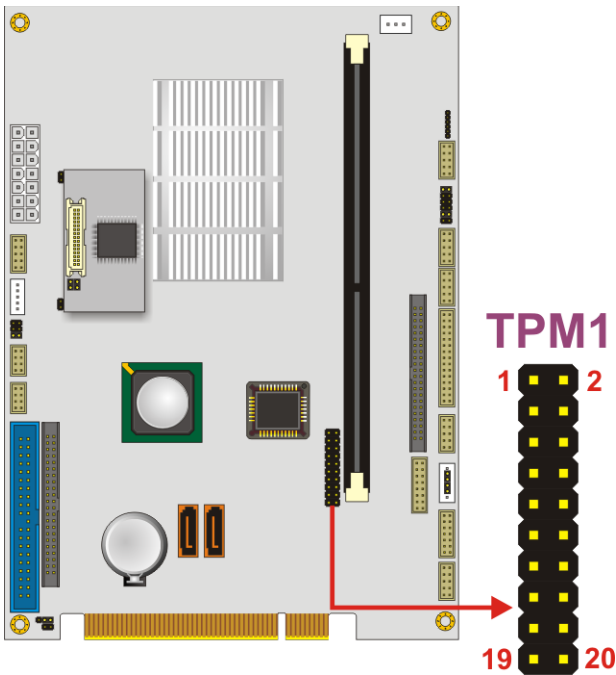

Figure 3-19: TPM Connector Pinout Location
- CN Location:** See Figure 3-19